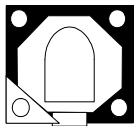

Figure 1
4. The motors have four mounting holes. Note/mark which is "used to attach the ground wire". Refer to Figure 1.
4. At the corners marked “used to attach the ground wire”, file the surface until all black paint is removed. Refer to Figure 1.
4. The motors have four mounting holes. Note/mark which is “used to attach the ground wire”. Refer to Figure 1.
removed. Refer to Figure 1.
5. File the area indicated in Figure 1.
Before installing the motor, remove the paint from the area indicated in Figure 1.
4. File the area indicated in Figure 1.
6. Check that the ground wire is firmly attached at the location indicated in Figure 1.